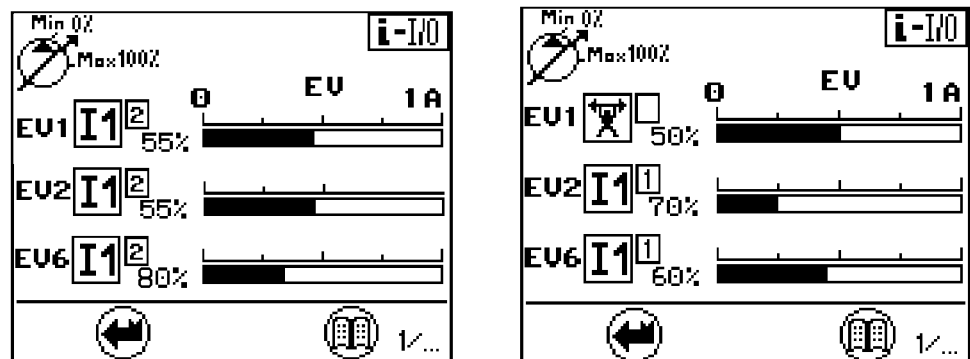
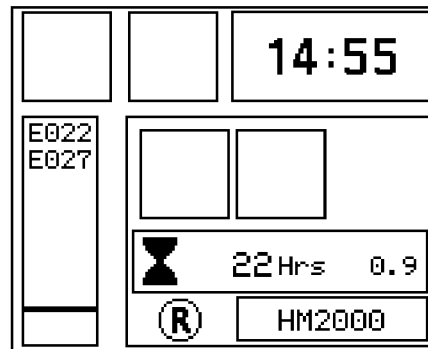

Fig. 3-18 Flow and pressure limitation menu
Fig. 3-19 Main screen when an external limitation is active
- On the left picture, an external limitation (Hardware input I1, option1) is activated (siehe Fig. 3-18 auf Seite 22). The current supplying the solenoid valves is limited at 55% of its maximal value. When an external limitation is activated, the symbol "R" is displayed in the TI field of the main screen, (siehe Fig. 3-19 auf Seite 23).